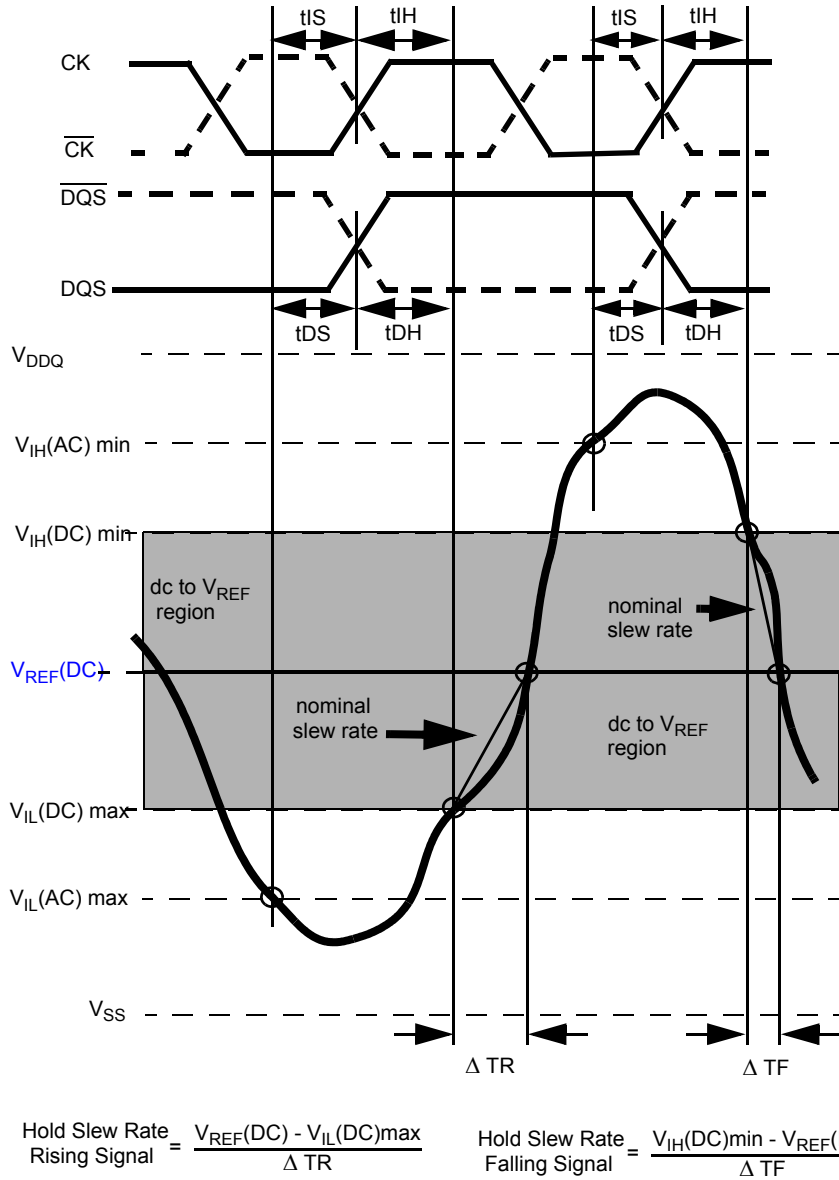
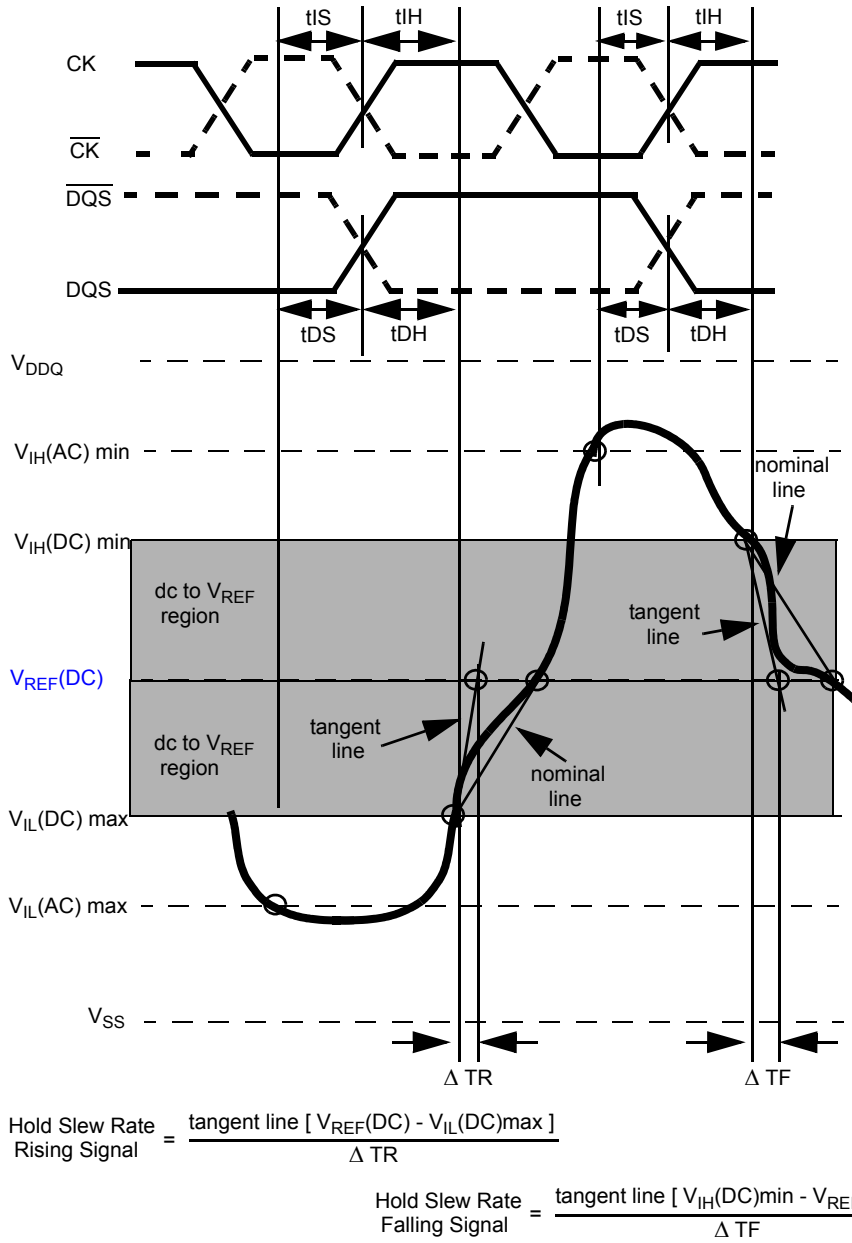

Figure 22. Illustration of nominal slew rate for hold time t_{DH} (for DQ with respect to strobe) and t_{IH} (for ADD/CMD with respect to clock).
Figure 24. Illustration of tangent line for hold time t_{DH} (for DQ with respect to strobe) and t_{DQ} (for ADD/CMD with respect to clock)
Hold (tIH) nominal slew rate for a rising signal is defined as the slew rate between the last crossing of V_{IL}(DC)max and the first crossing of V_{REF}(DC). Hold (tIH) nominal slew rate for a falling signal is defined as the slew rate between the last crossing of V_{IH}(DC)min and the first crossing of V_{REF}(DC). If the actual signal is always later than the nominal slew rate line between shaded 'dc to V_{REF}(DC) region', use nominal slew rate for derating value (see Figure 22). If the actual signal is earlier than the nominal slew rate line anywhere between shaded 'dc to V_{REF}(DC) region', the slew rate of a tangent line to the actual signal from the dc level to V_{REF}(DC) level is used for derating value (see Figure 24).